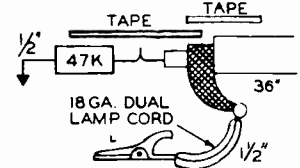

Fig. 5 DECOUPLING FILTER
Connect VTVM high side to test point "V" through a decoupling filter, see figure 5. Connect low side to chassis.
4. Connect oscilloscope high side to test point "V" through decoupling filter of figure 5, low side to chassis.